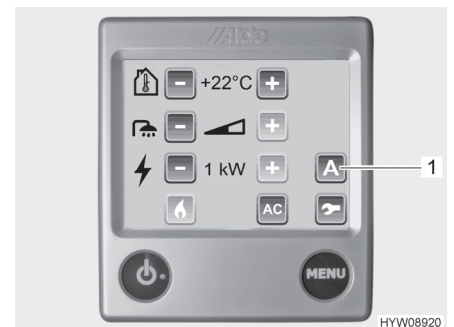

Fig. 165 Adjustment menu (auxiliary fan)
The auxiliary fan is controlled via the operating unit (Fig. 165) of the hot-water heater.
- Press "A" button (Fig. 165,1). The functions will be displayed.